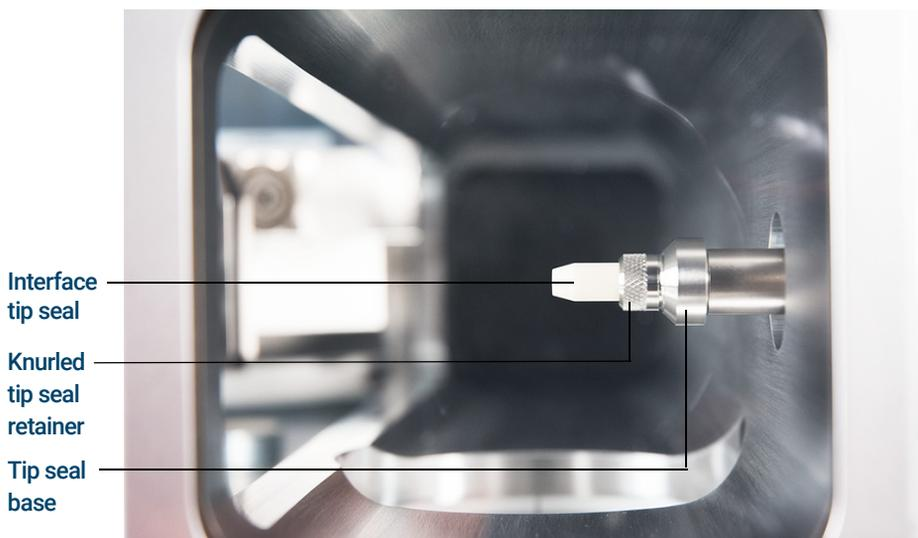

Figure 8. Interface tip seal
- 1 Verify that the CI source, EI XTR source, or HES is installed. This tip seal and its spring must not be installed when an EI SS or Inert source is installed (See Figure 8 on page 51).